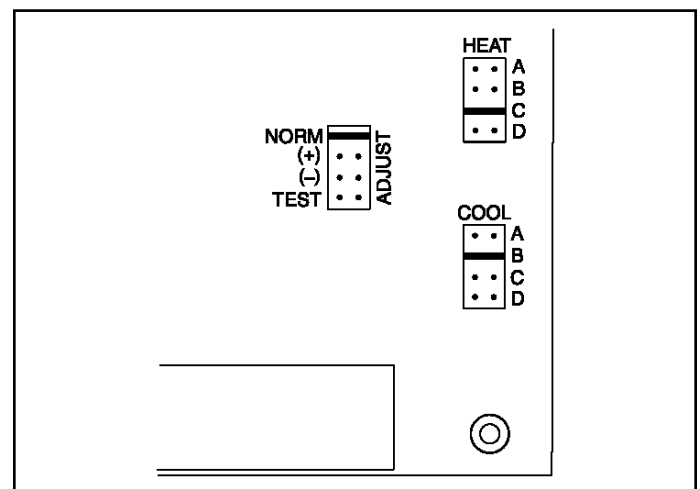

Figure 57. ADJUST, HEAT, and COOL Taps on Integrated Ignition/Blower Control Board
2. When this unit is running in the heating mode, the indoor blower will run on the heating speed designated by the positions of DIP switches 1 (A,B,C,D) of the HEAT jumper plug. See Figure 57.
3. When there is a cooling demand, the indoor blower will run on the cooling speed designated by the positions of DIP switches (A, B, C, D) of the COOL jumper plug. See Figure 57.
The units are factory set for the highest airflow for each model. Adjustments can be made to the cooling airflow by repositioning the jumper plug marked COOL – A, B, C, D (see Figure 57). To determine what CFM the motor is delivering at any time, count the number of times the amber
These units are factory set to run at the middle of the heating rise range as shown on the unit rating plate. If higher or lower rise is desired, reposition the jumper plug marked HEAT - A, B, C, D (see Figure 57) . To determine what CFM the motor is delivering at any time, count the number of times the amber LED on the control board flashes. Each flash signifies 100 CFM; count the flashes and multiply by 100 to determine the actual CFM delivered (for example: 10 flashes x 100= 1000.
Airflow amounts may be increased or decreased by 10% by moving the ADJUST jumper plug (see Figure 57) from the NORM position to the (+) or (-) position. Changes to the ADJUST tap will affect both cooling and heating airflows. The TEST position on the ADJUST tap is not used.